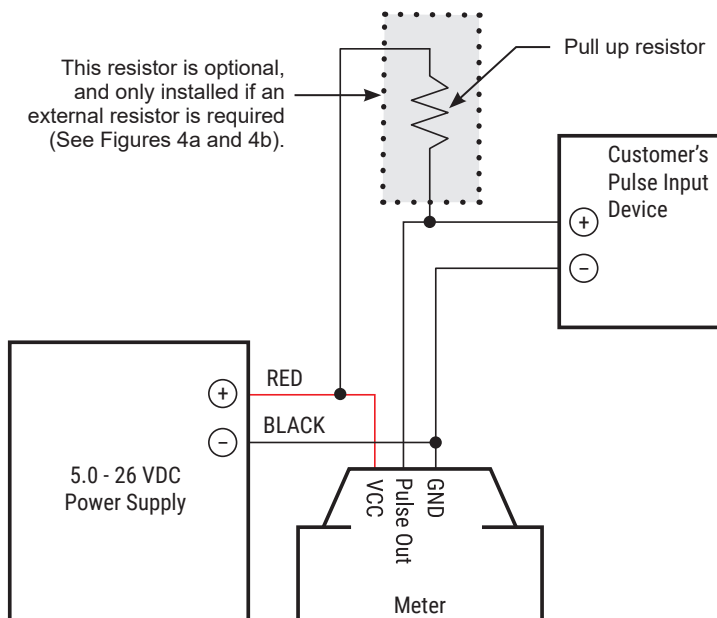

Figure 3
1. The Pulse Access module comes pre-wired for external connections to external power and provides an open collector output which can be set to either raw or scaled pulse output. The wires are color coded to be connected as shown in Figures 3 & 4.